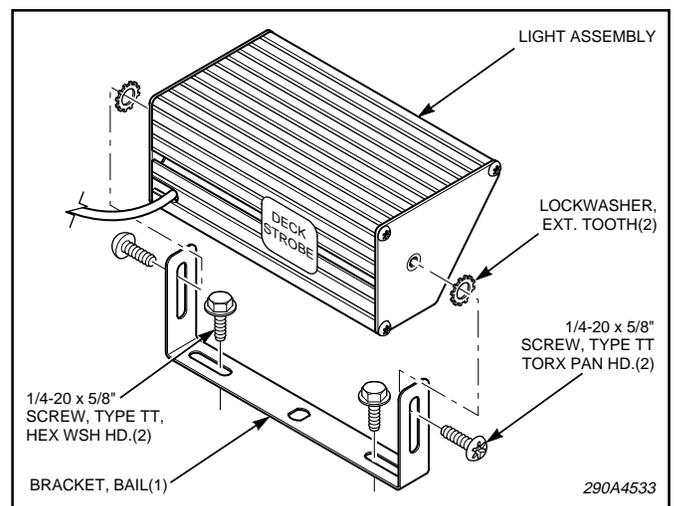
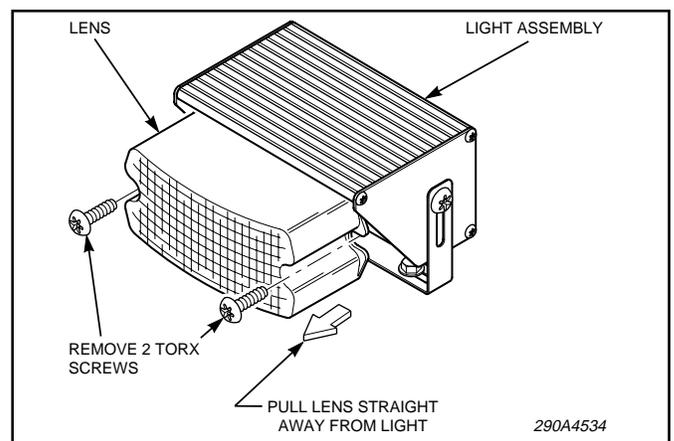

Figure 1.
Figure 2.
d. Secure the light assembly to the mounting bracket(s) using the 1/4" x 5/8" pan head Taptite screws and lockwashers as shown in figure 1.
a. See figure 1. Use the mounting bracket(s) as a template and scribe mounting hole position marks on the mounting surface.
d. Secure the light assembly to the mounting bracket(s) using the 1/4" x 5/8" hex head Taptite screws and lockwashers as shown in figure 1.
b. Remove and retain the two screws and lockwashers which secure the light assembly to the mounting bracket (see figure 1). Remove and retain the two screws which secure the lens (see figure 2), and carefully pull the lens straight away from the light assembly.